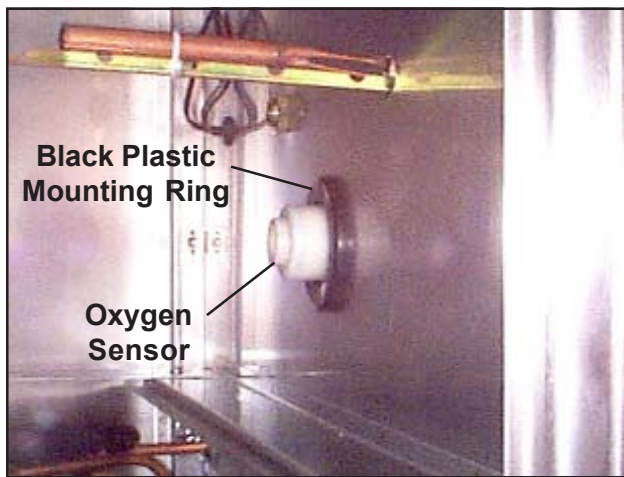

Figure 97. New Style Oxygen Sensor Mount
4. Inside the filter/fans compartment, notice the installation of the oxygen sensor (Figure 97).